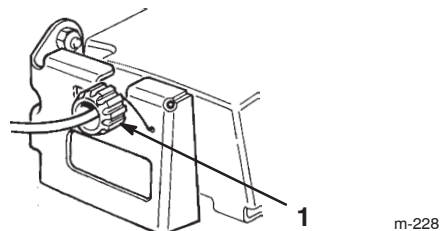

Figure 30
If the lawn mower does not self-propel or has a tendency to creep forward when the control bar is **more** than 1-1/2 inches (3.8 cm) from the handle, adjust the wheel drive control knob on the rear of the gear box (Fig. 30).
2. Rotate the control knob clockwise 1/2 turn if the lawn mower does not self-propel. If the lawn mower creeps forward, rotate the knob 1/2 turn counterclockwise (Fig. 30).